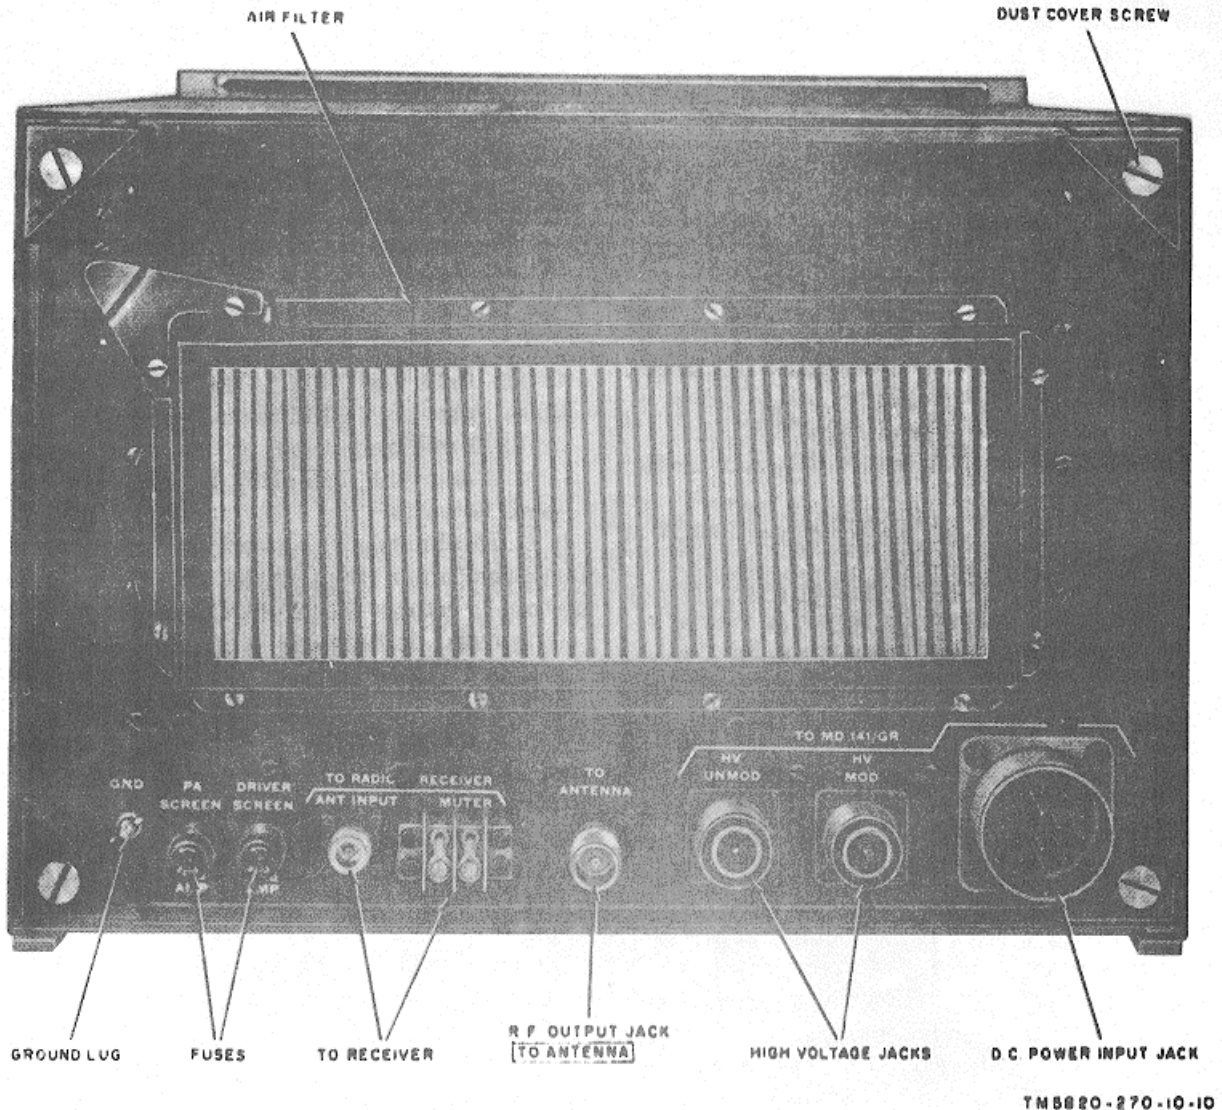

Figure 2-3. Radio Transmitter T-282(\*)/GR, rear panel.
**Caution: Do not operate the equipment unless an antenna or a dummy load is connected to the TO ANTENNA connector on the rear panel of the T-282(\*)/GR (fig. 2-3).**